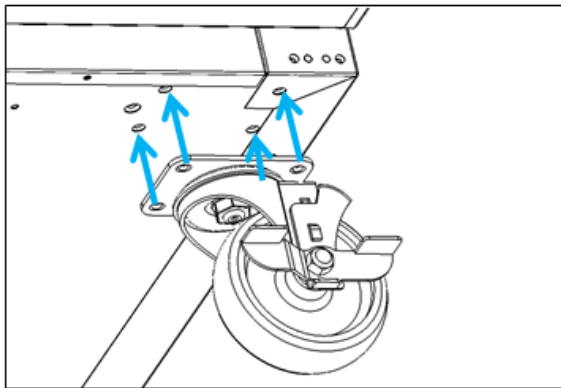

Figure 4
(2) Undercounter and Tables (Figure4): Install casters in the bottom rails assembly on the bottom of the unit with 4 M6 bolts for each caster. This is required in order to achieve maximum strength and stability of the unit. Casters with brakes Must be installed in front and the casters must be in contact firmly with the bottom rails of the unit.